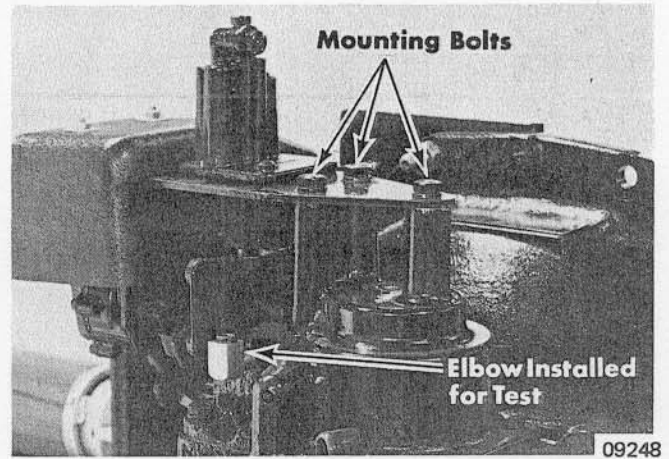

Figure 1. Elbow Installed in Control Valve Housing
1. To check II-TR transmission oil pressure, install elbow C-22-54035 in control valve housing, as shown in Figure 1. Coat threads with Loctite Hydraulic Sealant (C-92-69917-1). Tighten elbow to face-up position.
2. Mounting bolts, shown in Figure 1, must be torqued to 125-135 in. lbs. (144-156kg-cm). If shift bracket bolts become loose, shifting will be affected and possible transmission failure may occur.